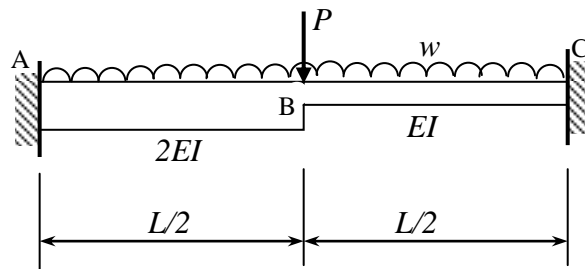

Figure 4
3. (b) The stepped beam with both end fixed as shown in Figure 4 is to be analysed using piece-wise Rayleigh-Ritz method where the beam will be divided artificially into two portions <A-B> and <B-C>. The beam is subjected to a uniformly distributed load, w and a point load, P at B.